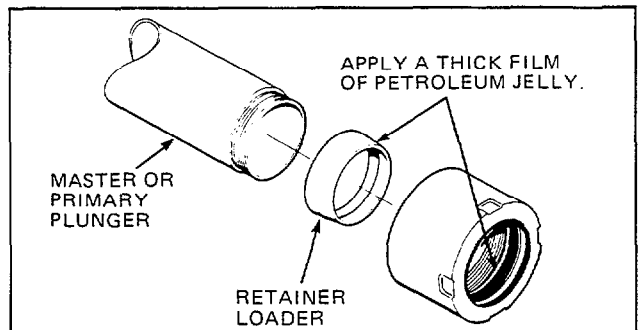

Figure 15. Retainer Loader
12. Place the second largest retainer loader over the end of the master plunger. Apply petroleum jelly to the loader and inner surface of the master plunger retainer. Load the retainer onto the master plunger then remove the loader. Tighten the retainer to a torque of 200–250 ft.-lbs. See Figure 15.
13. Place the third largest retainer loader over the end of the primary plunger. Apply petroleum jelly to the loader and inner surface of the primary plunger retainer. Load the retainer onto the primary plunger. Tighten the retainer to a torque of 100–150 ft.-lbs. See Figure 15.